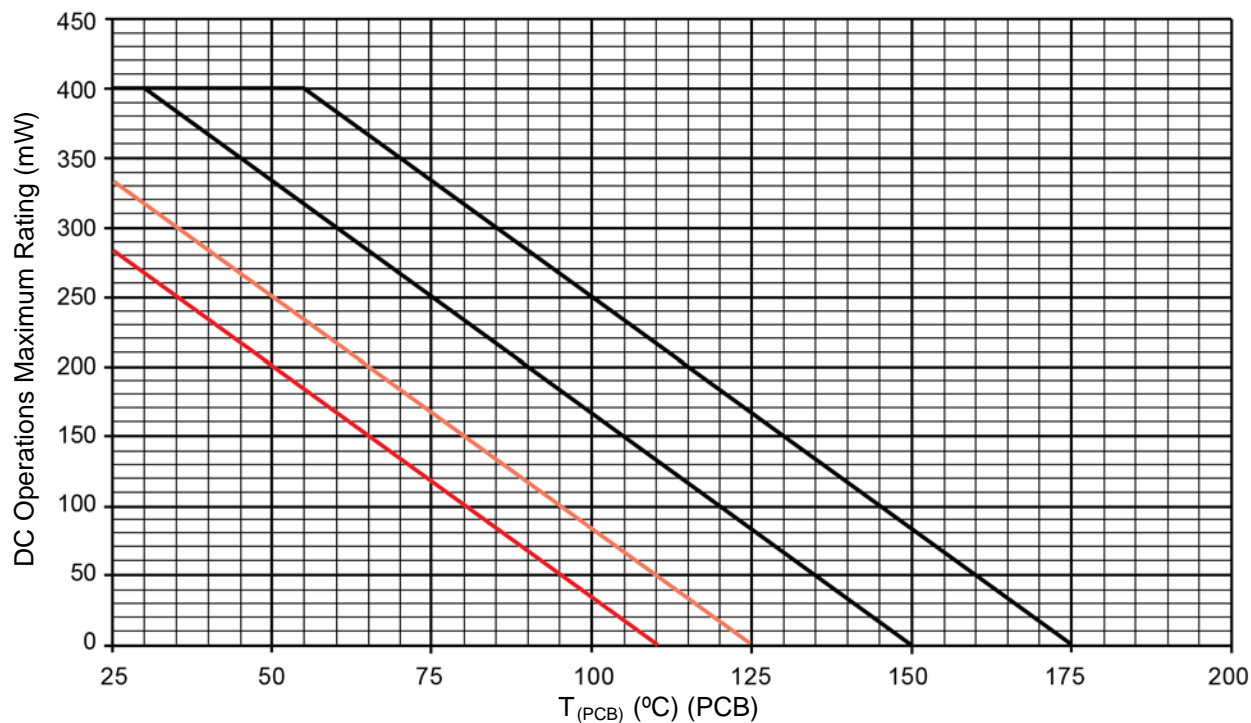

FIGURE 2
2. The 0.5 W linearly derates starting at $T_{EC} = 125^{\circ}\text{C}$ and goes to zero at 175°C . For ambient T_A condition on a typical PC board, it linearly derates from 400 mW starting at 55°C and goes to zero at 175°C (see Figure 2).